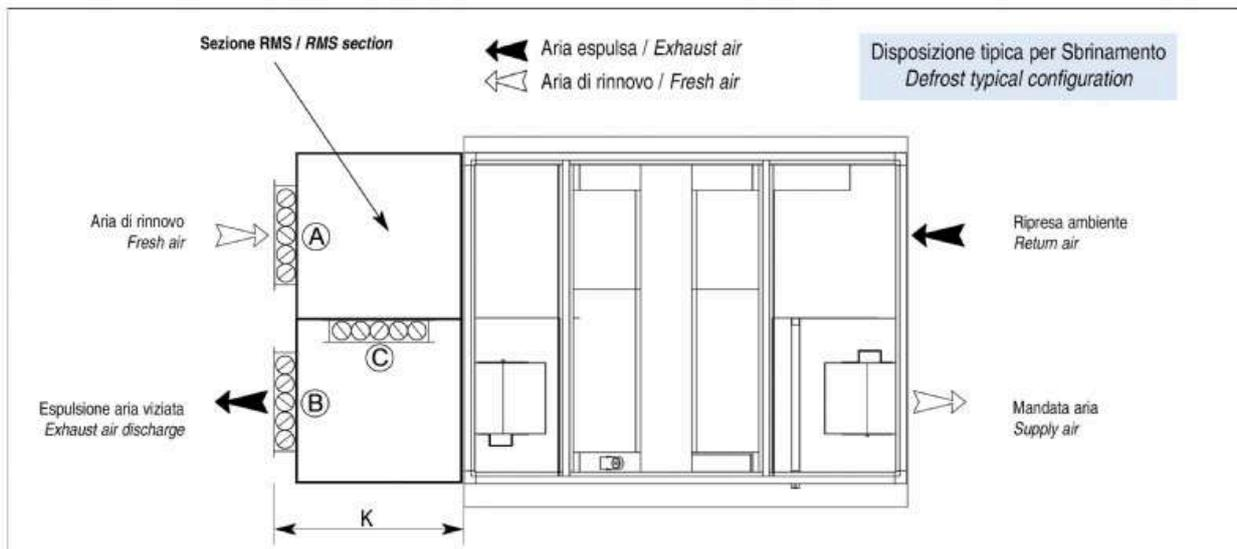

Fig.4
Sbrinamento (Fig. 4)
Defrost (Fig. 4)
- (1) Connection for optional post-heating water coil BCR
(2) Note referring to the RMS accessory (see figure 4 on the previous page)
(3) Condensate drain